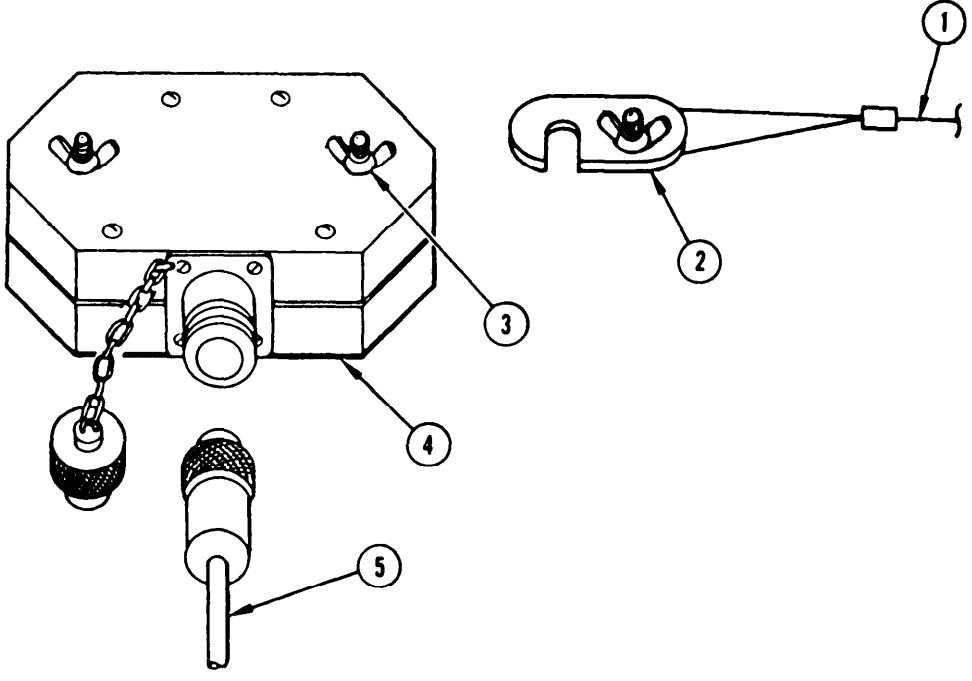

Figure 2-4. Dipole Antenna installation (Sheet 1)
**DIPOLE ANTENNA INSTALLATION (2 of 5), fig 2-4, sh 2**
4. Temporarily fasten free end of frequency tape measure (7) to center of Insulator (4).
5. Unwind frequency tape measure (7) to length for desired frequency, using marks on back of tape.
6. Grasp one reel (8) firmly in one hand, loosen center thumb nut (9), and clamp thumb nut (10).
7. Slowly move away from insulator (4) center, keeping wire (1) tight at all times. Hold thumb on wire (1) to prevent backlash.
8. After unwinding required amount of wire (1), tighten clamp thumb nut (10) and then center thumb nut (9).
10. Unfasten frequency tape measure (7) (if used) from insulator (4).
11. Unfasten insulator (4) from support and lay wires (1) out in a straight line.
12. Check overall length of two wires (1) plus insulator (4) and reels (8). Overall length should be twice length indicated in step 5 by frequency tape measure (7). Adjust wires (1) for exact overall length. Keep insulator (4) centered.